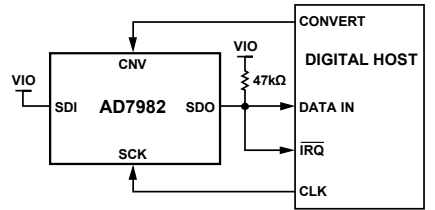
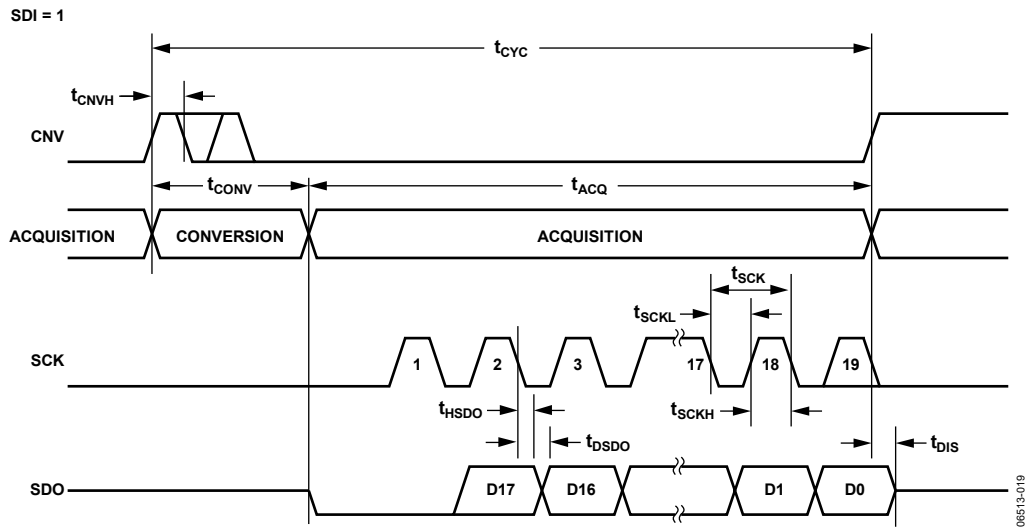
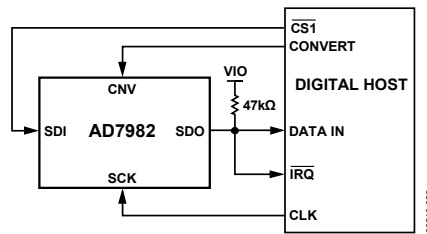
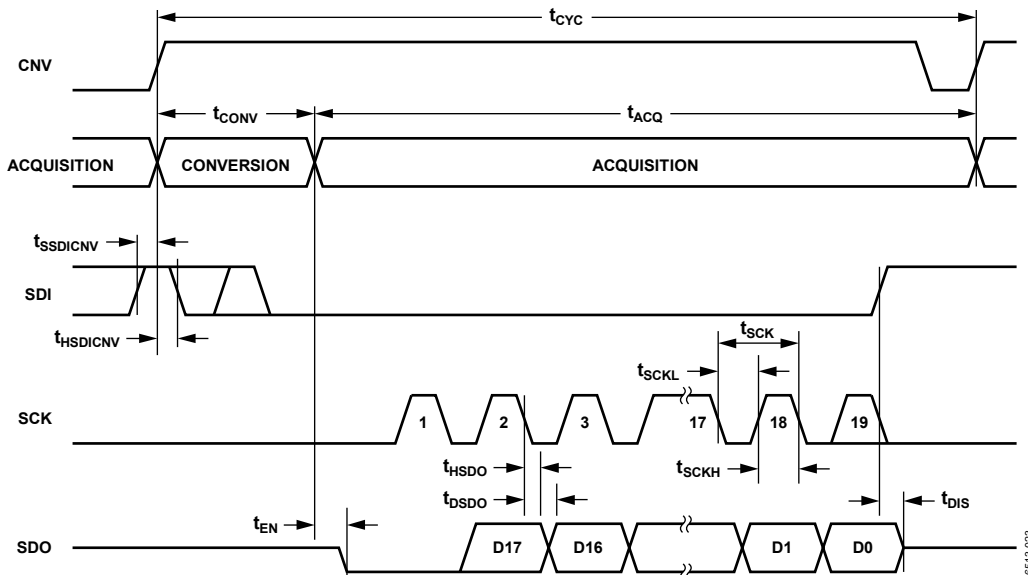

Figure 30.  $\overline{\text{CS}}$  Mode, 3-Wire with Busy Indicator Connection Diagram (SDI High)
Figure 31.  $\overline{\text{CS}}$  Mode, 3-Wire with Busy Indicator Serial Interface Timing (SDI High)
Figure 34.  $\overline{CS}$  Mode, 4-Wire with Busy Indicator Connection Diagram
Figure 35.  $\overline{CS}$  Mode, 4-Wire with Busy Indicator Serial Interface Timing
- In the  $\overline{\text{CS}}$  mode if CNV or SDI is low when the ADC conversion ends (see Figure 31 and Figure 35).
The connection diagram is shown in Figure 30, and the corresponding timing is given in Figure 31.
The connection diagram is shown in Figure 34, and the corresponding timing is given in Figure 35.